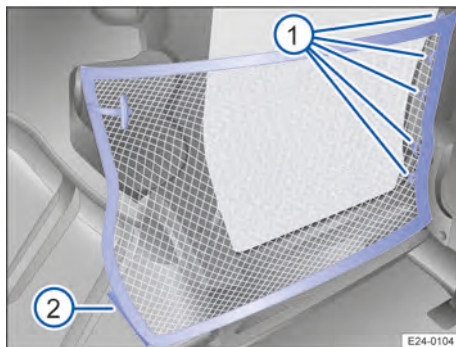

Fig. 156 Load restraint net attached.
3. Hook the five fastening rings into the holders on the seat frame → Fig. 156 ① on the flexible partition.
4. Secure the rear lower part of the load restraint net at the hook-and-loop fastener → Fig. 156 ②.